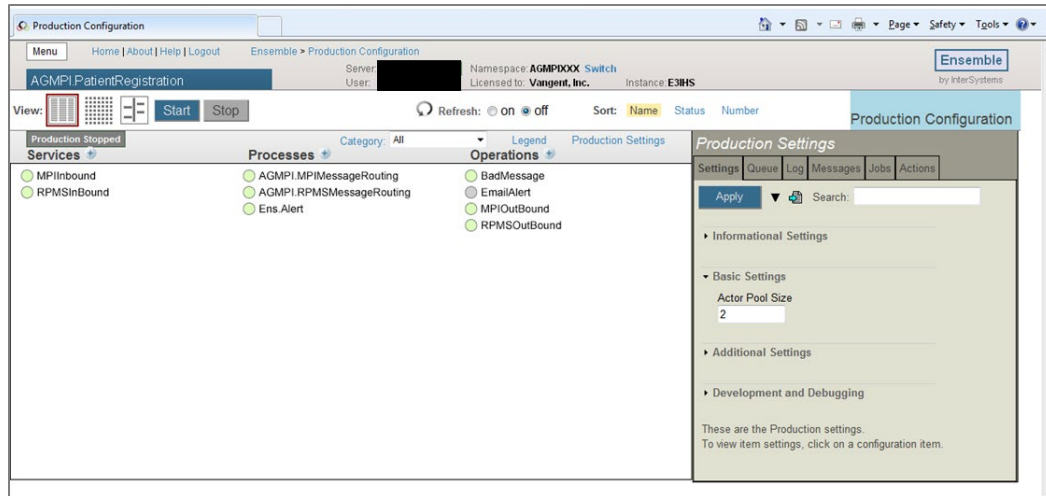

Figure 4-16: AGMPI.PatientRegistration production instance
- The **Production Configuration** page for the selected namespace is displayed, as shown in Figure 4-16.